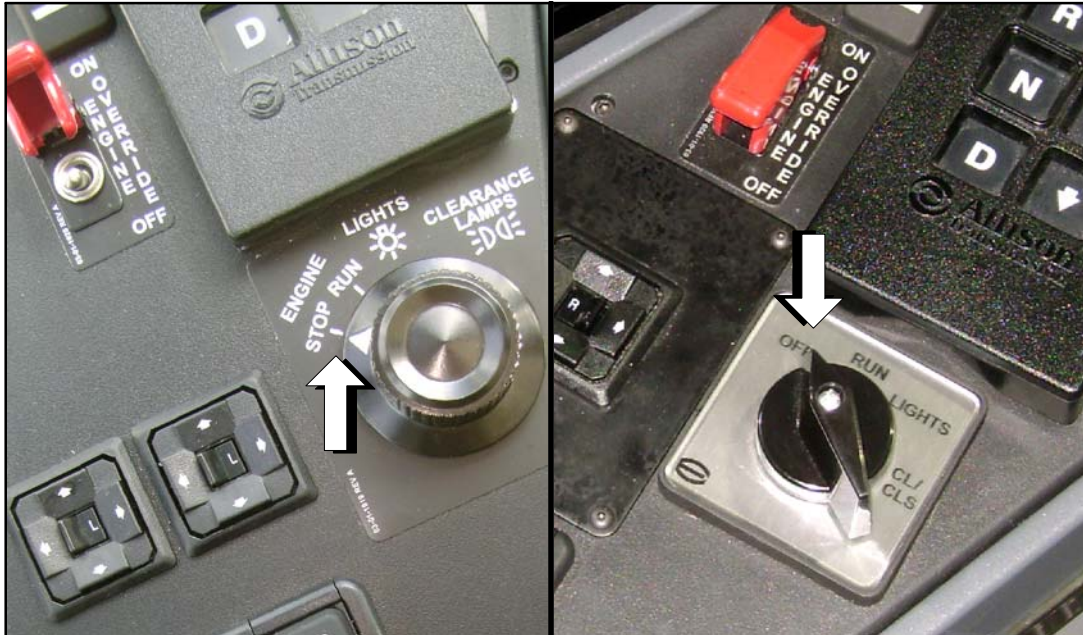

Figure 1.
1. Position the master run control switch on the lower, LH console to STOP or OFF, as applicable per Figure 1.